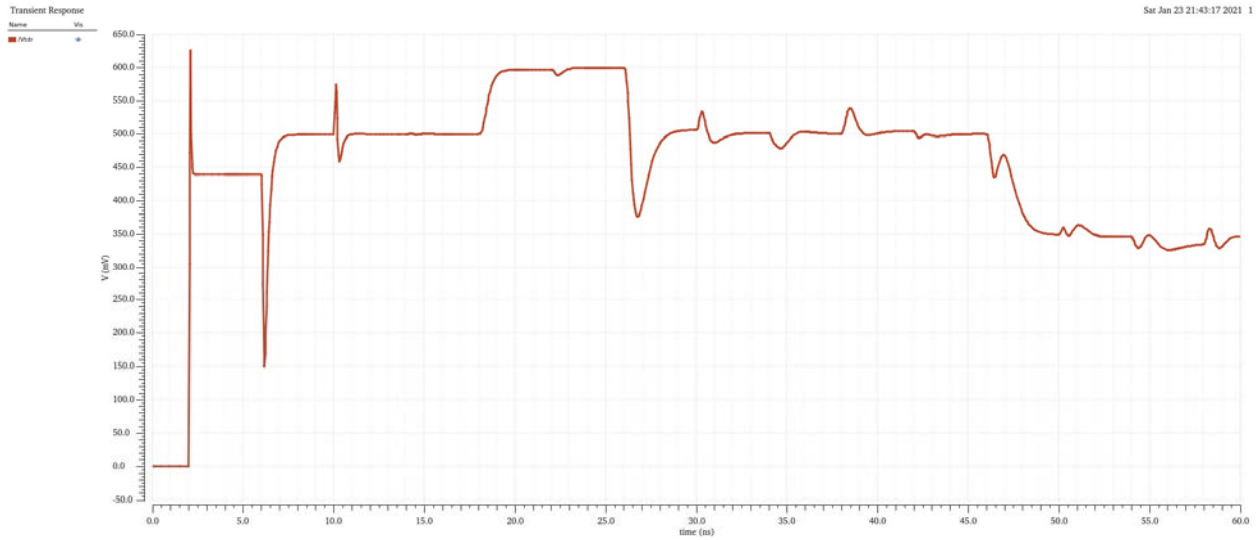

Figure 13 TDR Response
- Please develop a model circuit composed of ideal transmission lines, inductors, resistors, and capacitors which generates the same response as Figure 13. The input rise time is 0.1ns. Please show your model circuits and Cadence simulation result.